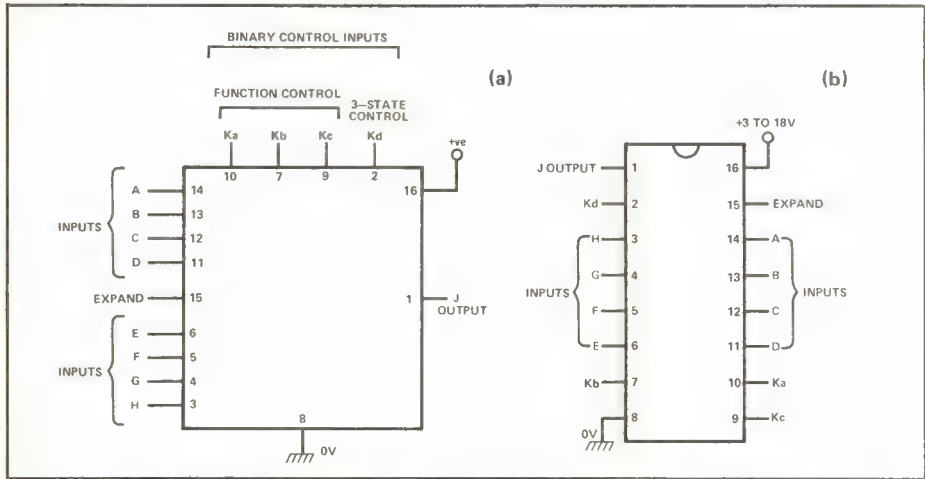

Figure 27: Functional diagram (a) and outline (b) of the 4048B multifunction expandable 8-input gate.
Most CMOS logic ICs are dedicated devices; eg, the 4082B is a dual 4-input AND gate, and can be used as nothing BUT an AND gate. One very useful exception to this is the 4048B multifunction "programmable" 8-input gate, which has the functional diagram and outline shown in Fig. 27. This IC has two groups of four input pins, plus an EXPANSION input pin, and is provided with four control (K) pins which enable the user to select the mode of logic operation.